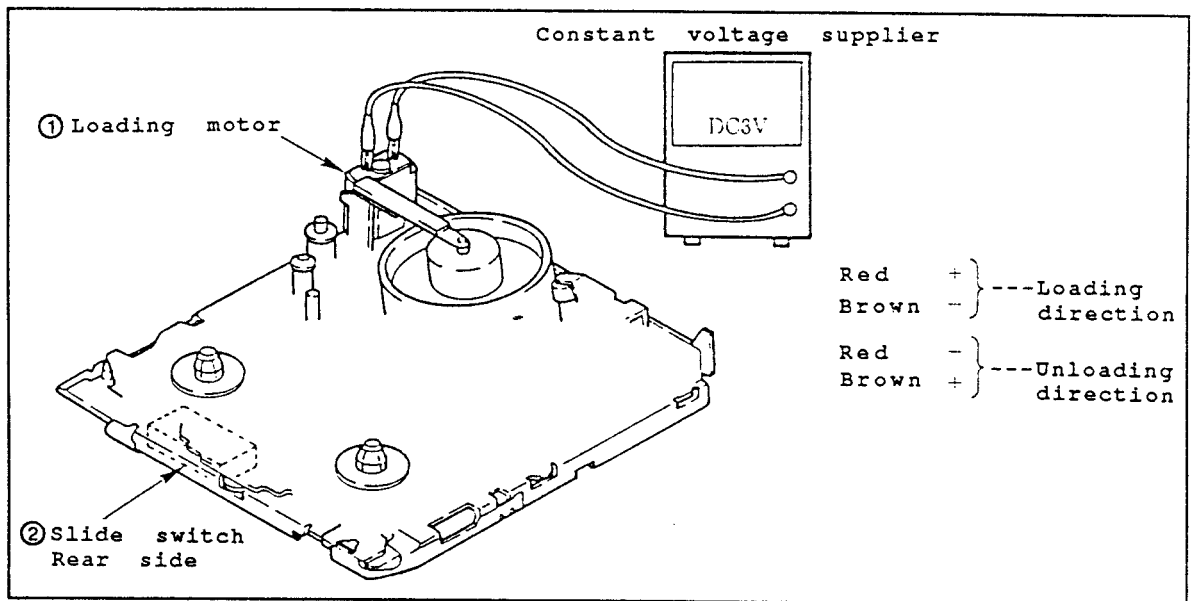
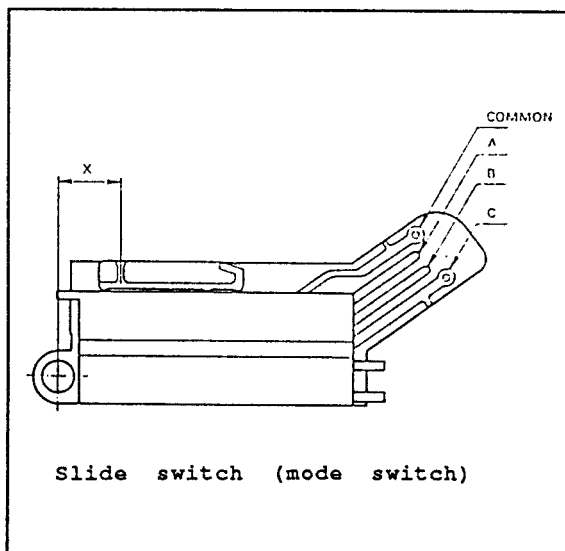

Fig.II-3
Fig.II-4
- (1) To expose the terminals, remove the tape from the upper part of loading motor. (Fig.II-3)
- (2) Supply 3V (approx.) to the terminals of loading motor ① from the constant voltage supplier.
- (3) For confirming the mechanical modes, use the output of slide switch ② (mode switch). (Fig.II-4, Table II-1).